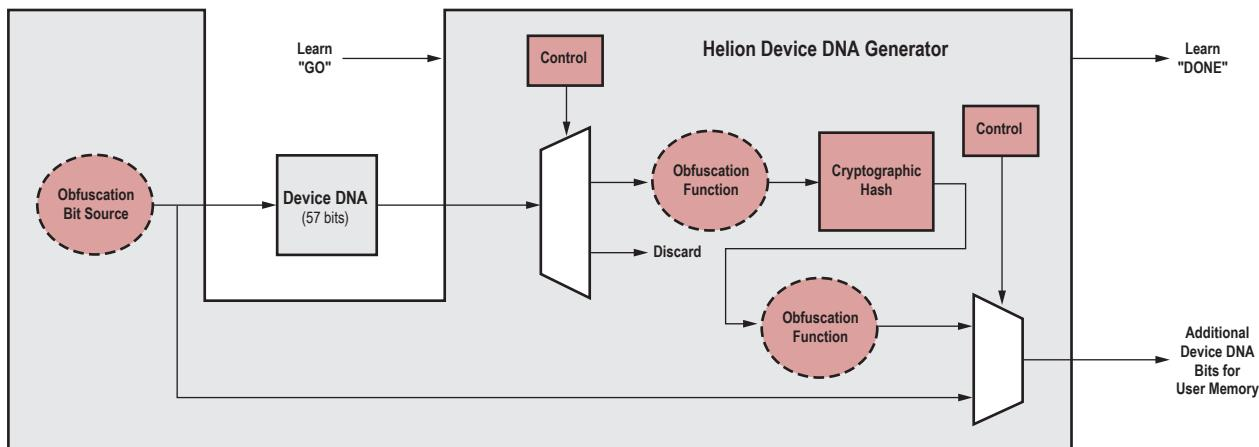

Figure 5 – Using Device DNA as a hardware download
2. Hardware download. In this case, an optional second IP block called the Helion Device DNA Generator implements the same algorithms as the Checker to generate the necessary additional Device DNA data (Figure 5). You would put together a special programming bitstream incorporating this block using the same user configuration as the Checker at synthesis time. This does not include any of your normal design, as it is only required for configuring non-volatile user memory with the appropriate additional
Xilinx has a long history of supporting SDI interfaces in the Virtex™ family of FPGAs. XAPP514, “Audio/Video Connectivity Solutions for the Broadcast Industry,” is a video connectivity IP and reference design book that details all aspects of the protocol stack: SDI, HD-SDI, DVB-ASI, SDTV/HDTV test pattern generation, and even embedded audio. Xilinx and National Semiconductor are actively working to port these highly valuable reference designs into Spartan-3E and Spartan-3A FPGAs. Figure 5 illustrates a list of successfully ported reference blocks used for demonstration purposes based on an internal evaluation board. Figure 6 illustrates an SMPTE 75% color bar display generated by the board.